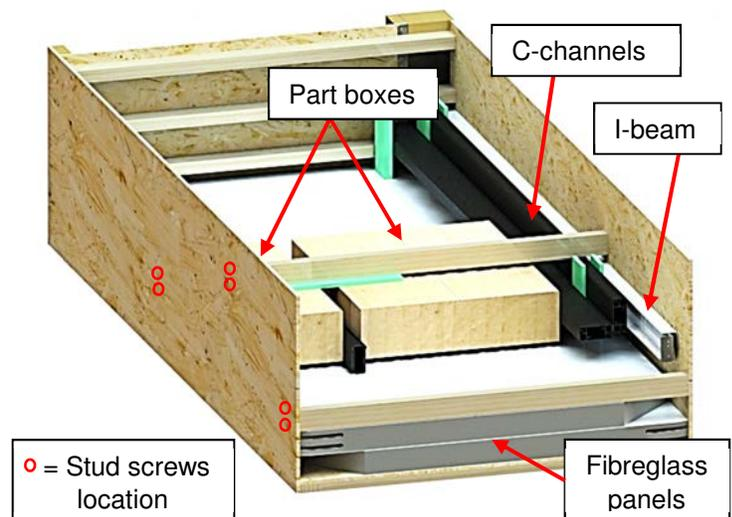

Figure 40
- 15) Remove the stud over the parts boxes and the other components by unscrewing the #8-10 x 1.5 in. Robertson screws on both sides of the crate. (Figure 40)
- 17) Cut the tie-wrap holding the I beam and the C-channels on the middle 2 x 3 in. stud, remove them from the crate and store them in a safe place. (Figure 40)
- 18) Remove the two studs holding the fibreglass panels in the crate. (Figure 40)
- 19) Leave both fibreglass covered foam panels in the crate and until they are needed. (Figure 40)